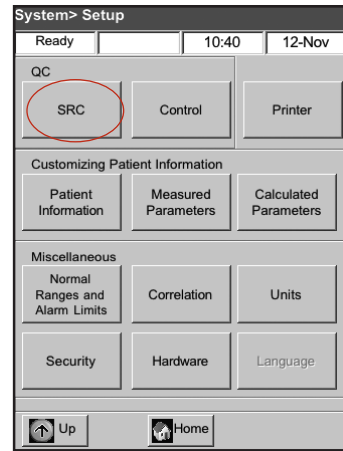

Figure H-2: System > Setup screen
3. From the System > Setup screen, tap **SRC** (Figure H-2).